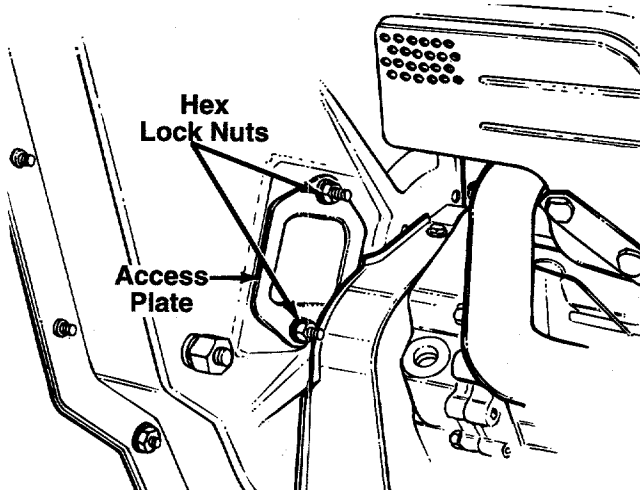

FIGURE 16.
4. Remove the access plate by removing two hex lock nuts. See figure 16.